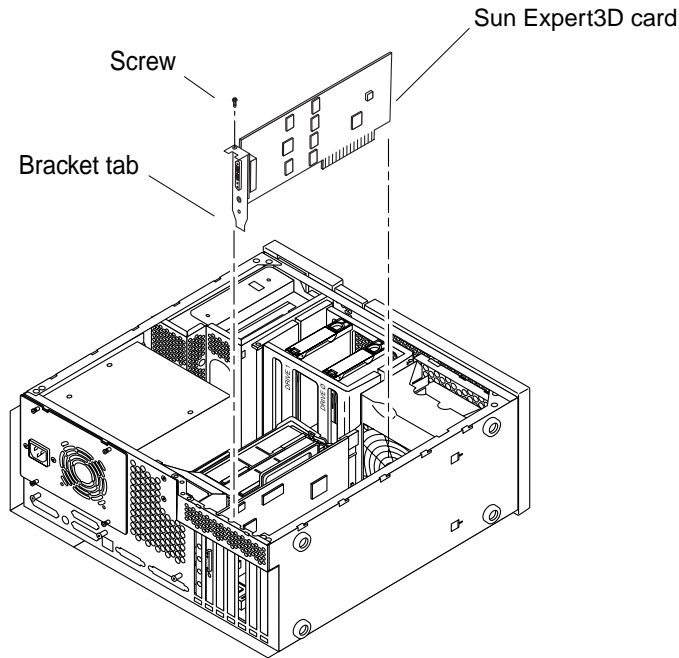

FIGURE 2-2 Installing Sun Expert3D Graphics Card in an Ultra 60 System
- a. Position the Sun Expert3D card into the chassis (FIGURE 2-2).